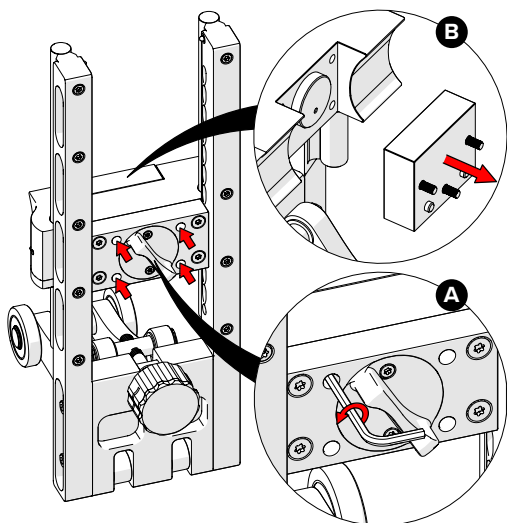

Fig. 1 - Disconnect the adapter block
1. Utilize a 3 mm hex key to unscrew the four adapter block screws (*Fig. 1-A*).